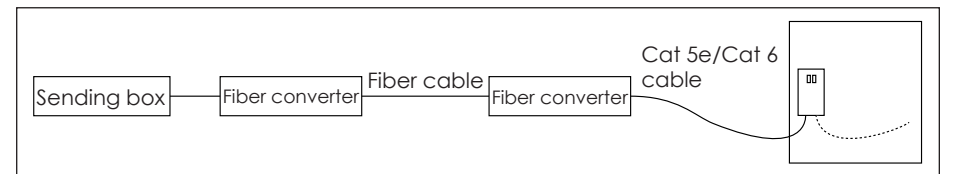

Figure 20: Route Cable
3. Route the Cat 5e/Cat 6 cable from the signal output jack to the signal input jack on the next panel. Refer to **Figure 20** and the Riser Diagram.